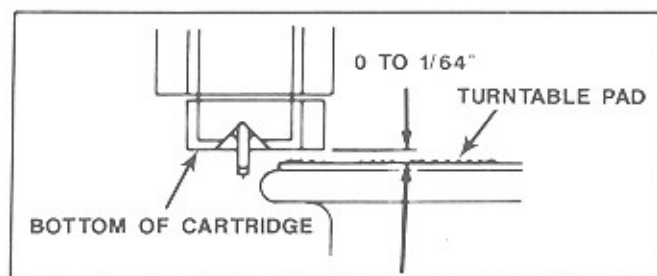

Figure 3-20. Stylus Height
2. Turn auto cancel screw until stylus holder is flush to 1/64 inch above turntable pad surface with tone arm in play position (see figure 3-20).